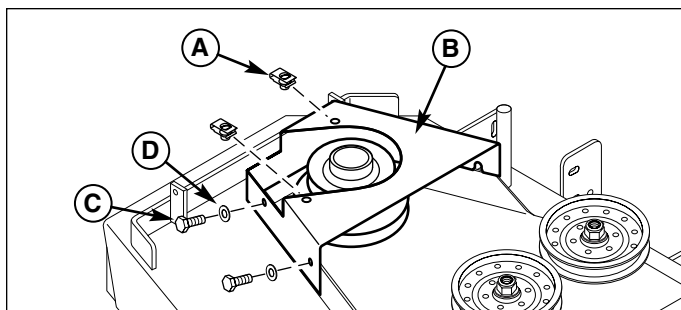

Figure 6. Install Guard
1. Install the new deck guard (B, Figure 6) and secure with the 5/16-18 x 3/4" bolts (C) and 5/16" washers (D) previously removed.
2. Install the 5/16" body clips (A) over the holes in the guard with the threaded side pointing down.